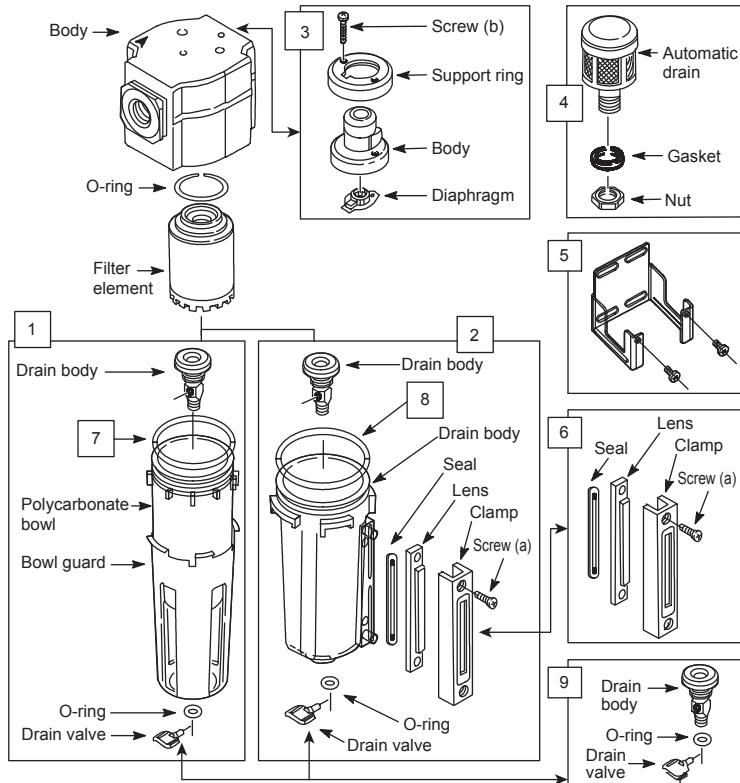

figure 2
OPERATING INSTRUCTIONS (See Figure 2)
- 1 Disassembly (See Figure 2)**
- Disassemble in general accordance with the parts illustrated in Figure 2. Do not remove the drains or the service indicators unless replacement is necessary. Remove and replace only if they malfunction or if converting to automatic drain (4ZK14A).
- 2 Cleaning (See Figure 2)**
- 3 Assembly (See Figure 2)**
- Assemble filter as shown on Figure 2. Arrows on indicator and body must point in same direction.